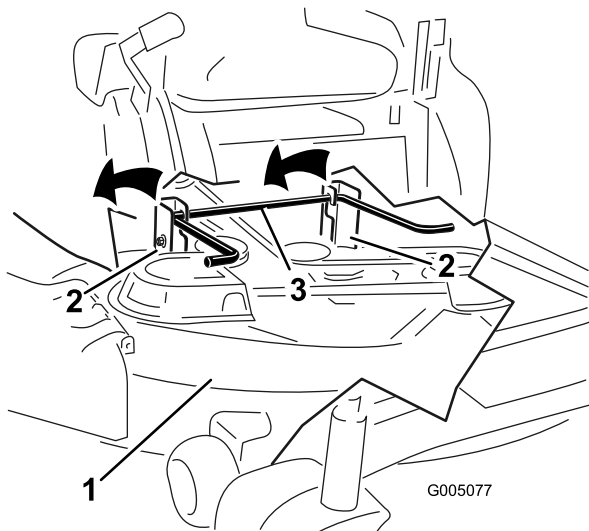

**Figure 58**
4. Remove the hairpin cotter from the front support rod and remove the rod from the deck bracket (Figure 58).
- Attach the front support rod to the mower deck with the clevis pin and hairpin cotter (Figure 58).